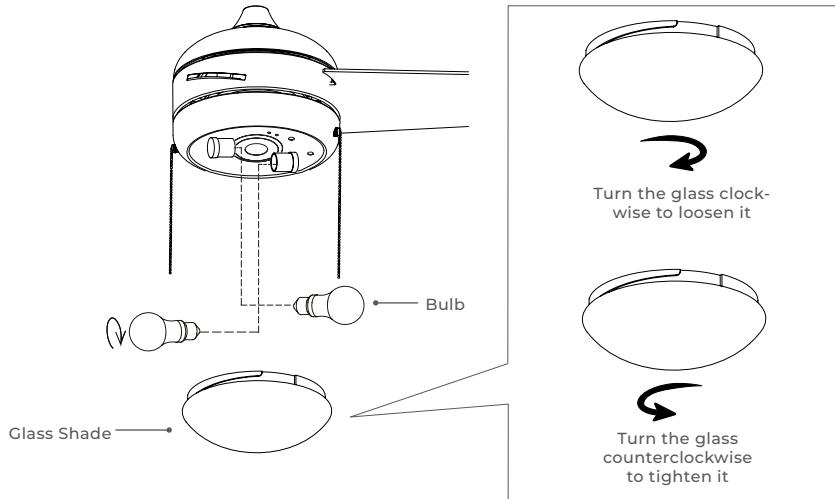

FIGURE 11
B) Place the glass shade onto the light kit and rotate till secure (Figure 11).